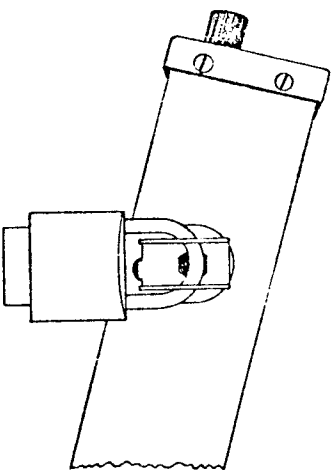

Figure 2
4. Attach padlock through the holes in side of mounting lock. Latch padlock to prevent removal of unit from mounting bracket (See Figure 2).